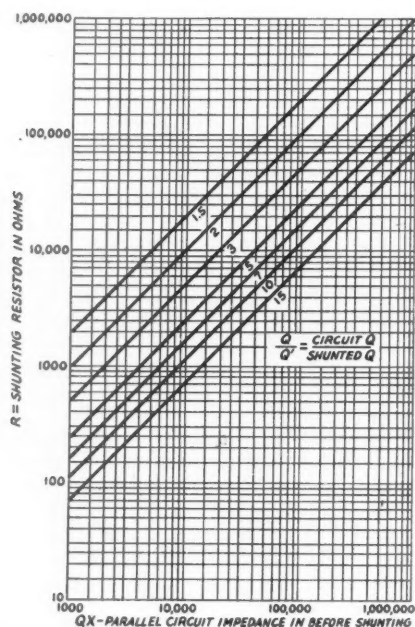

Fig. 5 — Chart based on Eq. (16) showing values of shunting resistance required to obtain a desired Q .
where X is the reactance of the coil or condenser in the tuned circuit at the resonant frequency. A graph of Eq. (16) is given in Fig. 5. If in the example just given above $Q_1 = Q_2 = 120$, the circuits could be shunted with resistances to reduce the Q
to the desired 36.5. $\frac{Q}{Q'} = 3.29$, and if the coil reactance is 1200 ohms, then QX is 144,000 ohms. From Fig. 5 the shunting resistor, R , should be 52,000 ohms.